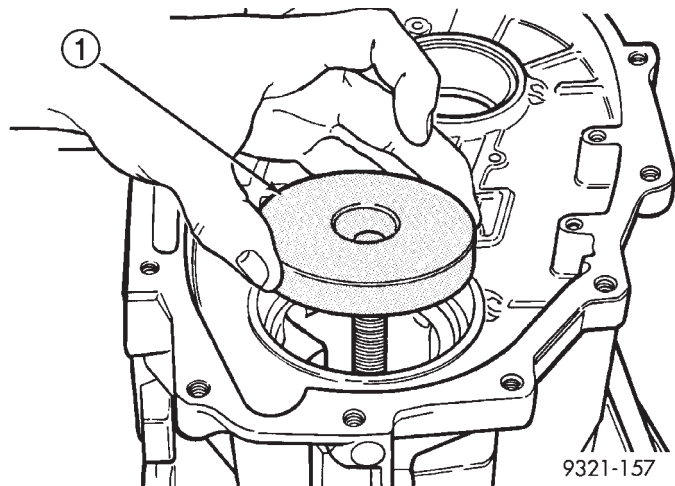

Fig. 393 Disc Installation
(5) Install centering disc (special tool 6494-2) onto gauge disc rod (Fig. 393).